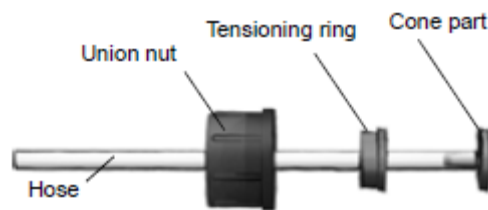

Fig. 8 Hydraulic connection
2. Push cone part fully into the hose, see fig. 8.